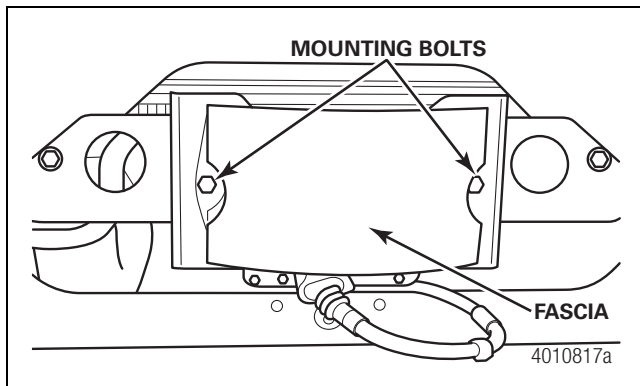

Figure 1
4. Remove the two fascia mounting bolts and remove the fascia from the radar sensor. Figure 1.